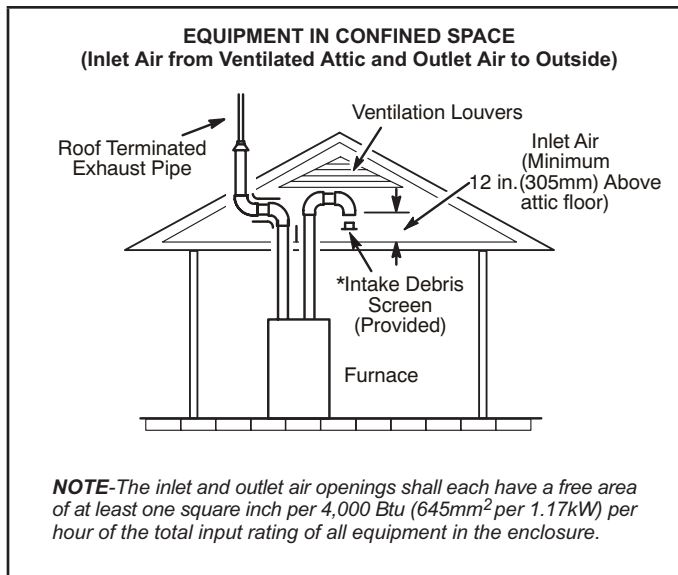
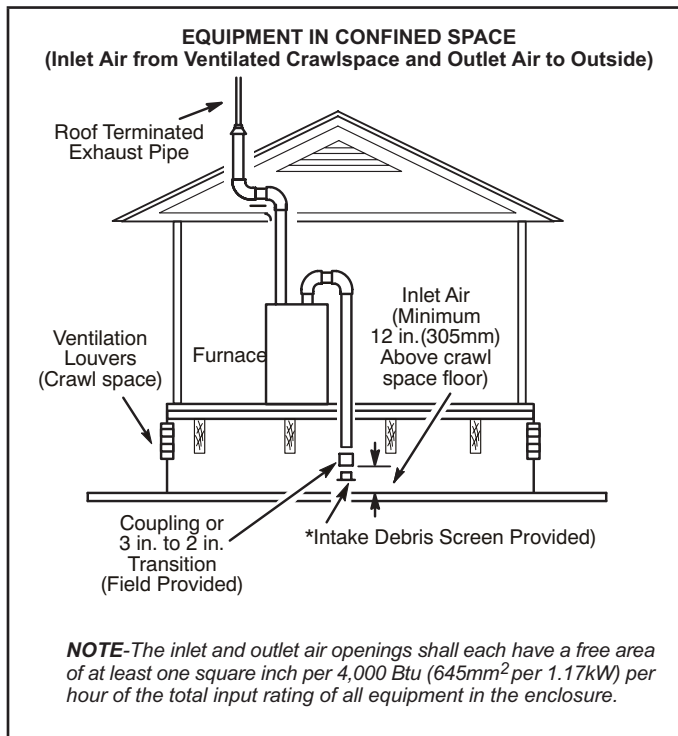

Figure 26
Figure 27
- 2 - If intake air is drawn from a ventilated attic (Figure 26) or ventilated crawlspace (Figure 27) the exhaust vent length must not exceed those listed in TABLE 8. If 3" diameter pipe is used, reduce to 2" diameter pipe at the termination point to accommodate the debris screen.